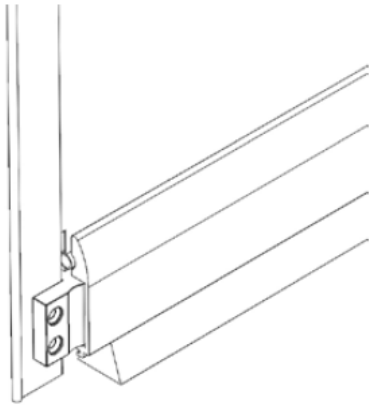

FIG B1
- Ensure the flap of the keder is fully inside the slot on the probe before securing (fig B1).